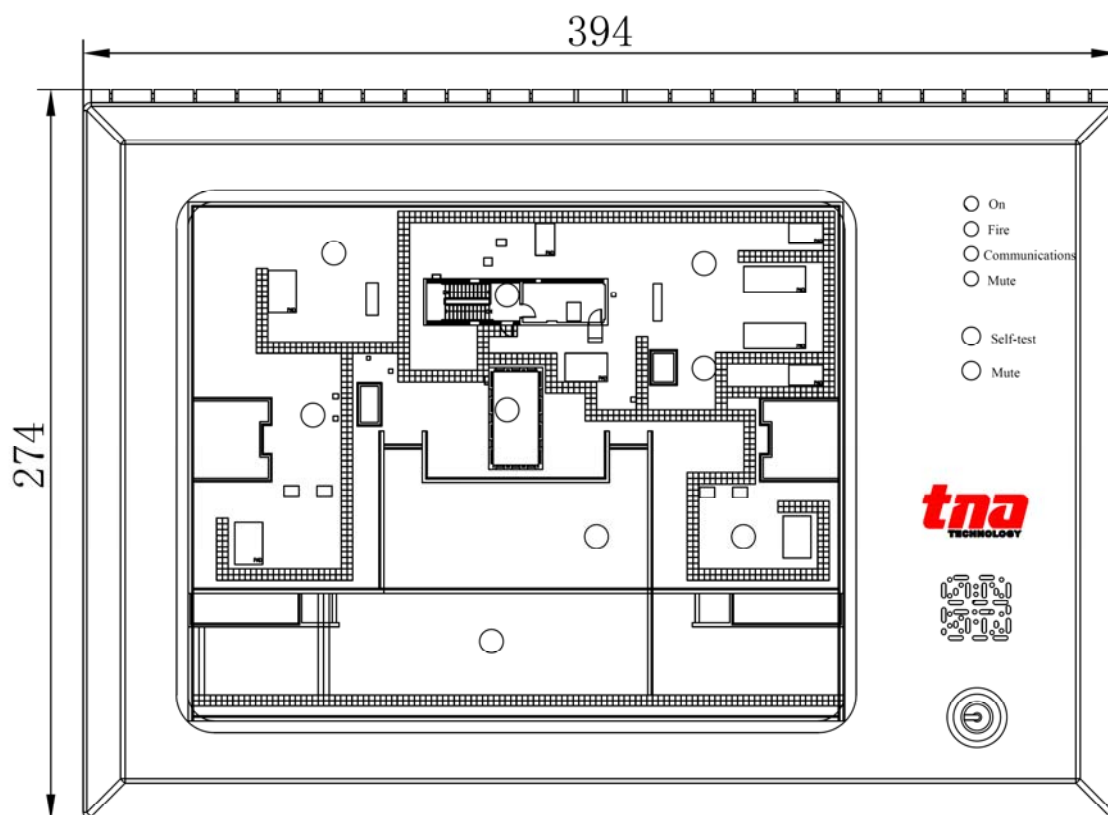

Figure 1
1. Appearance of the repeater panel is shown in Fig. 1.